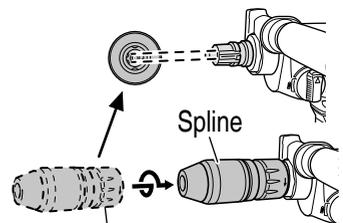

Fig. 15
- (1) Mesh the lock grip with spline.
- (2) Push in the lock grip, turning it in the direction shown on the lock grip.
- (3) To confirm that the lock grip is securely installed, tentatively try to pull out the lock grip (Fig. 15)